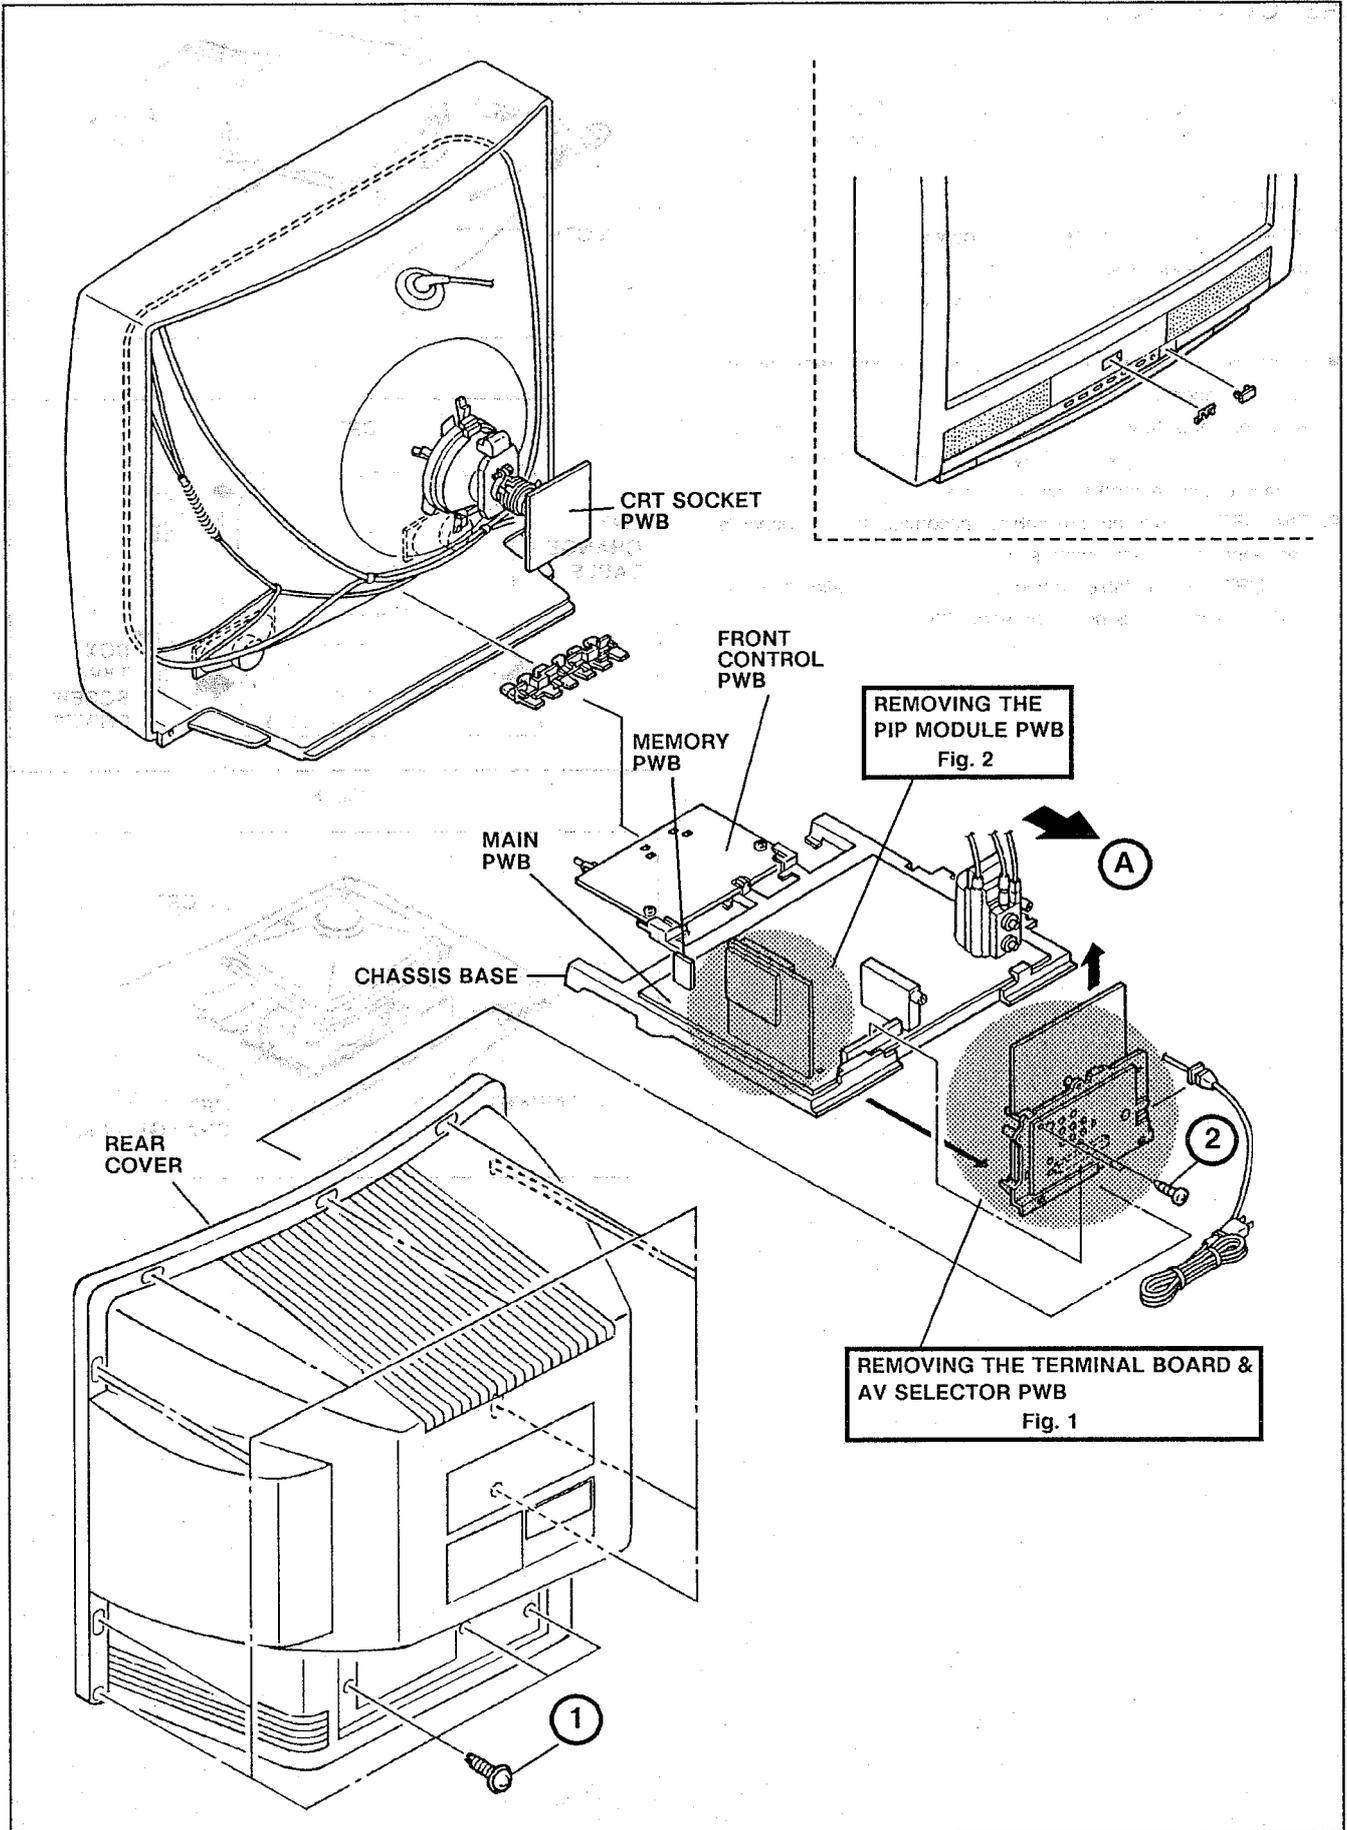

Fig. 3
2. Remove the fourteen screws marked ① as shown in Fig. 3.
1. As shown in Fig. 3 slide and pull out the CHASSIS BASE in the direction of arrow marked ④ as shown in Fig. 3. (If necessary, take off the wire clamp and connectors...etc.).
1. Remove the two screws marked ② as shown in Fig. 3.